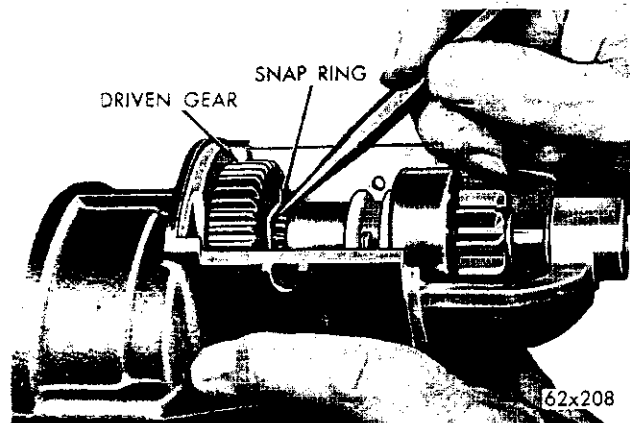

Fig. 30—Removing the Driven Gear Snap Ring
(19) Release the snap ring that positions the driven gear on the pinion shaft (Fig. 30).